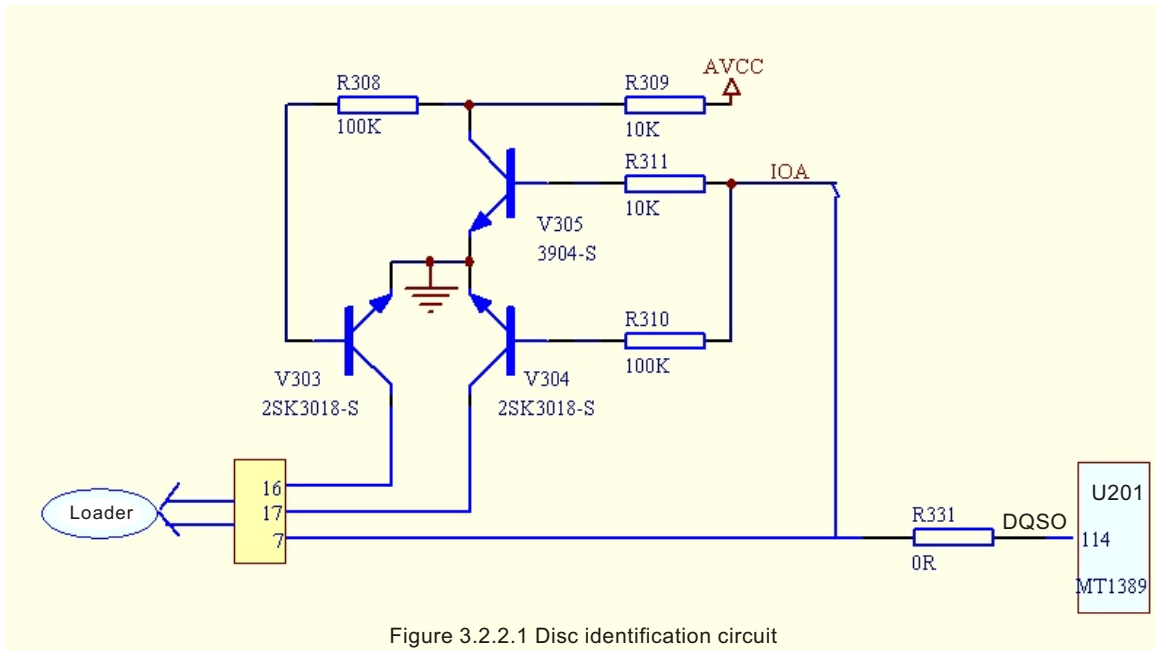

Figure 3.2.2.1 Disc identification circuit
1. The circuit schematic diagram is shown as the following figure 3.2.2.1: